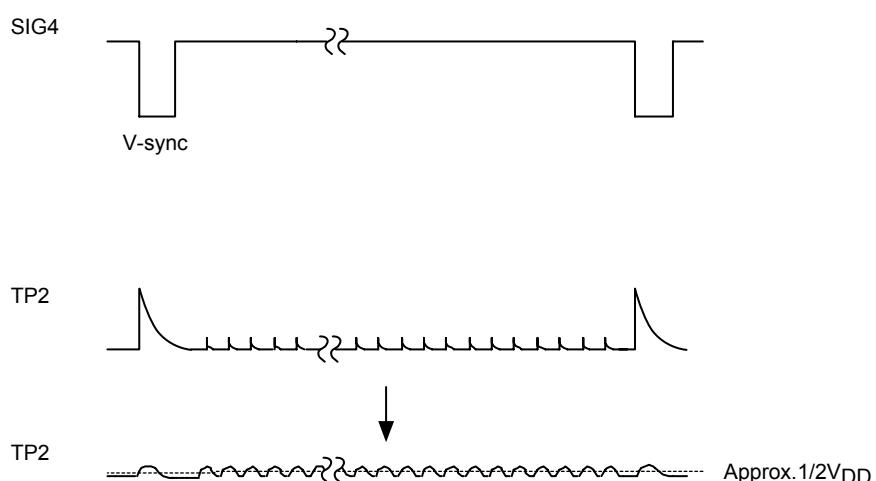

Fig.1-2 Horizontal AFC adjustment
Enter SIG4 ( $V_L = 0\text{mV}$ ) to (A) and adjust VR1 so that the width of WL and WH becomes equal in the TP2 output waveform.(See fig 1-2.)